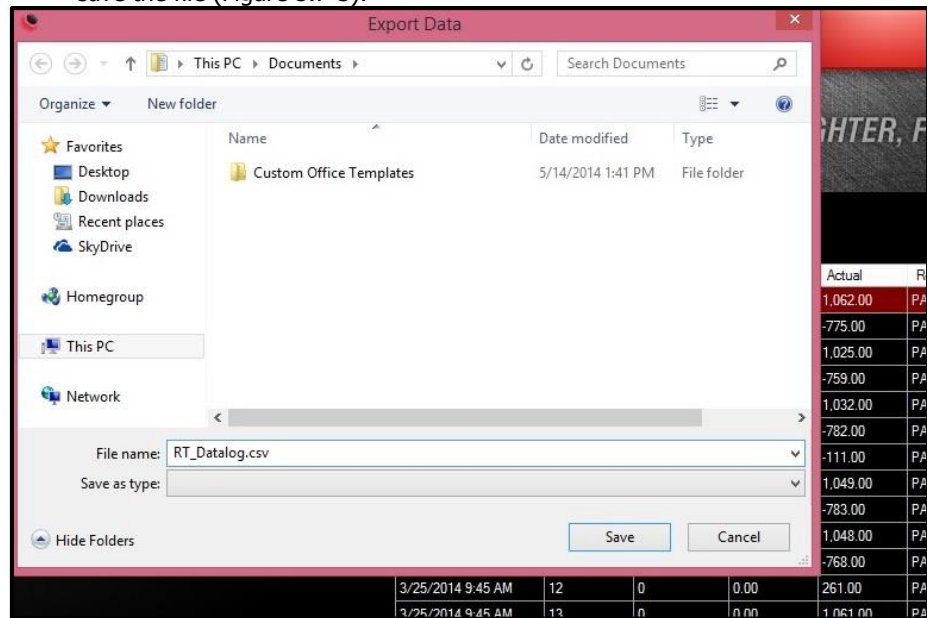

Figure 5.7-3: Saving the Data Log
3. If “**Yes**” or “**No**” was selected, a window will be displayed asking for a location to save the file (Figure 5.7-3).